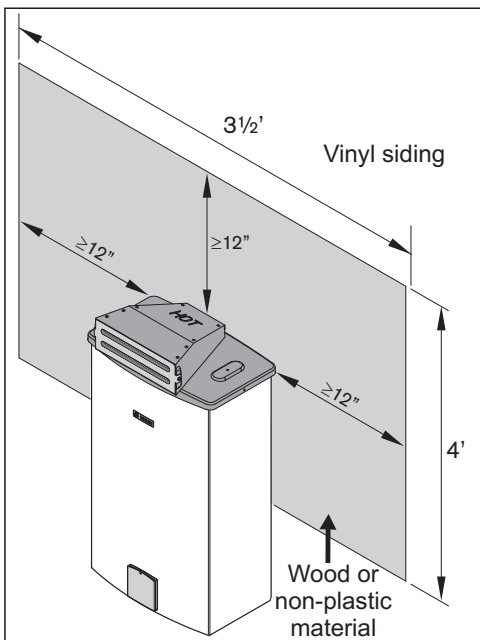

Fig. 10 Installation on vinyl siding
- ▶ Do not mount water heater directly onto vinyl siding, see Fig. 10.
- ▶ With vinyl siding, a 3½' x 4' area of the siding must first be removed and then replaced with wood or other non-plastic material. See Fig. 10.